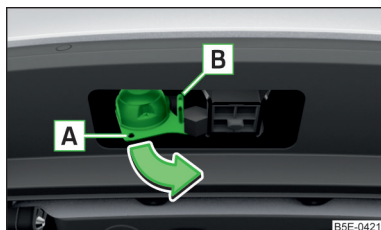

Fig. 299
- Grip the 13-pin socket at point **A** and swing out in the direction of the arrow » Fig. 299.
- Open the socket cap and insert the plug of the trailer (accessories) into the 13-pin socket **A** » Fig. 299. (If the trailer / accessories have a 7-pin connector, use a corresponding reduction piece from the ŠKODA Original Accessories).